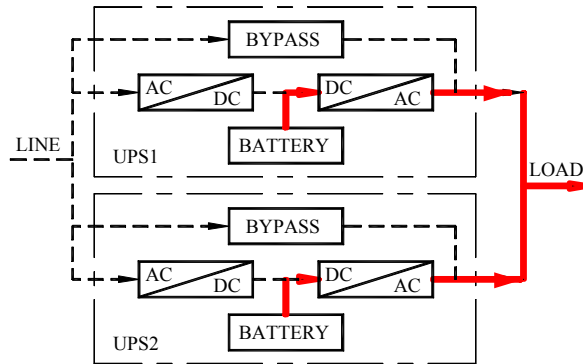

Figure 2-11 Working Mode in case of Improper External Power Supply
2. Working mode in case of improper external power supply (real lines refer to UPS's power passage), refer to figure 2-11